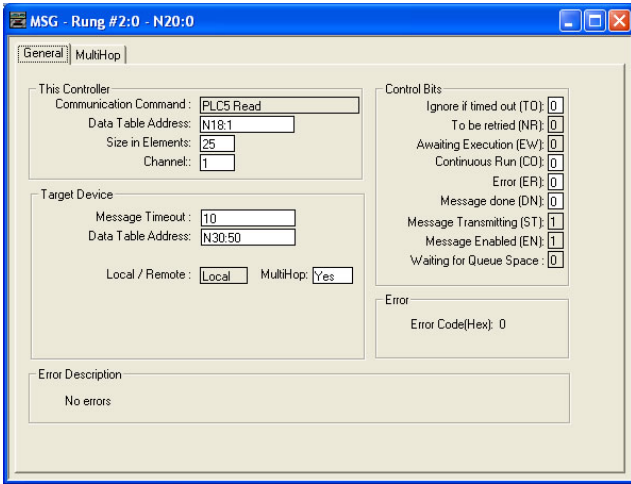

Figure 119: MSG Configuration, "General" Tab
- b) Upon hitting the <ENTER> key while in the “Control Block” entry box, the MSG Properties dialog box should appear (or it can be opened by clicking on the “Setup Screen” button at the bottom of the MSG instruction). Refer to Figure 119.